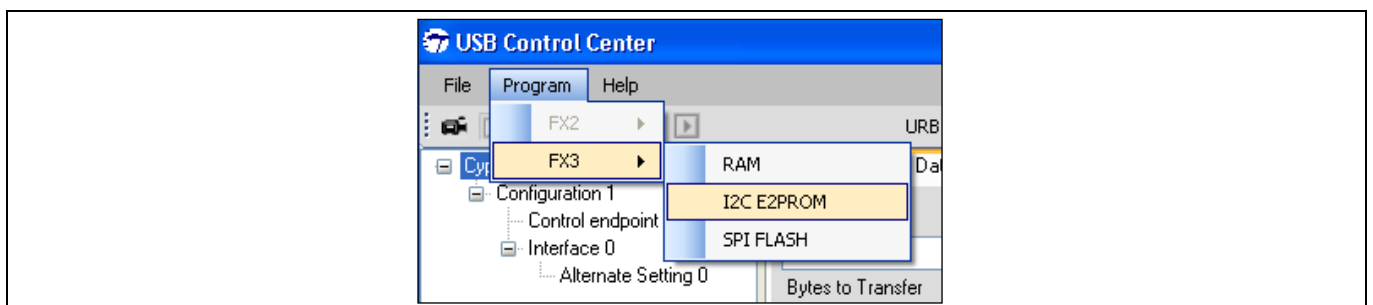
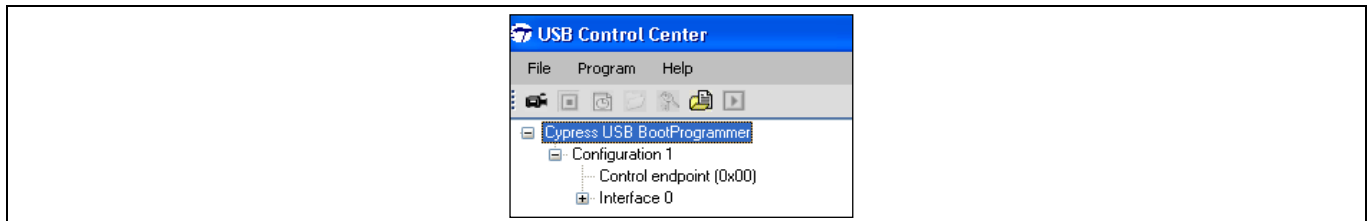

Figure 23 Choose Program > FX3 > I2C E2PROM
Figure 24 FX3™ re-enumerates as “Cypress USB BootProgrammer”
4. Before attempting to program the EEPROM, ensure that the address signals of the EEPROM are configured correctly using switch SW40 (For Microchip part 24AA1025, 1-8 ON, 2-7 ON, 3-6 OFF). Also, the I²C Clock (SCL) and data Line (SDA) jumpers J42 and J45 pins 1-2 should be shorted on the DVK board. In the Control Center, select the FX3™ device. Next, choose Program > FX3 > I2C E2PROM, as shown in Figure 23. This causes a special I²C boot firmware to be programmed into the FX3™ device, which then enables programming of the I²C device connected to FX3™. Now the FX3™ device re-enumerates as “Cypress USB BootProgrammer,” as shown in Figure 24.